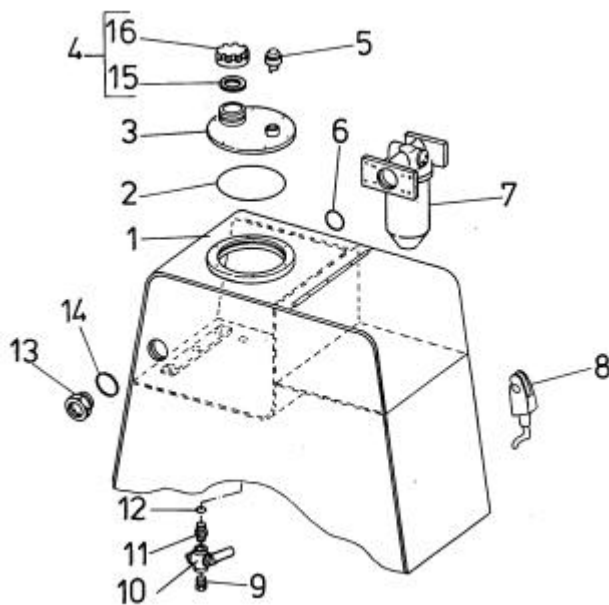

Fig. 5.35. Hydraulic Reservoir
4. Slowly remove reservoir filler cap 16 (Fig. 5.35, 5.35A). Add oil until the ball in the sight gauge reaches the top of the gauge. Refer to CHART 2 and 3 for the grade of oil specified.